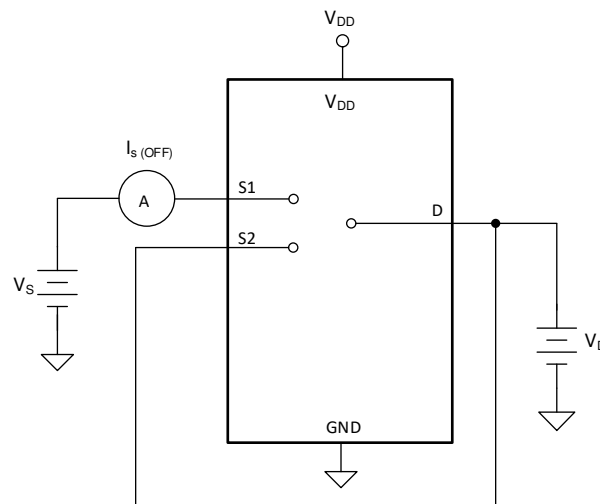

**Figure 16. On-Resistance Measurement Setup**
The on-resistance of a device is the ohmic resistance between the source (Sx) and drain (D) pins of the device. The on-resistance varies with input voltage and supply voltage. The symbol  $R_{ON}$  is used to denote on-resistance. The measurement setup used to measure  $R_{ON}$  is shown in Figure 16. Voltage (V) and current ( $I_{SD}$ ) are measured using this setup, and  $R_{ON}$  is computed with  $R_{ON} = V / I_{SD}$ :